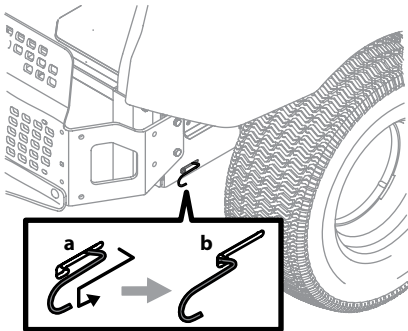

Figure 2-1
1. Engage the transmission bypass rods, one on each side of the tractor, to move the tractor manually without starting it. The transmission bypass rods are located on the rear of the tractor, just inside each rear wheel. Place the lapbars in the neutral (fully inward) position to disengage the parking brake. Engage the bypass rods by pulling each one back (a) and hooking it into the slot (b) to lock it into place. See Figure 2-1.
2. Disengage the bypass rods by reversing steps a & b after moving the tractor. See Figure 2-1.